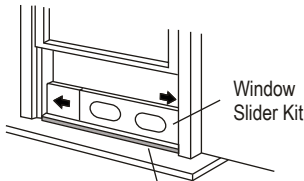

Fig. 6
2. Adjust the length of the Window Slider Kit to the width of the window. Shorten the Slider if the width of the window is less than 26.5" (Type I) or 22.1" (Type II). Place the Window Slider kit on top of the Adhesive Foam Seal (Fig. 6)